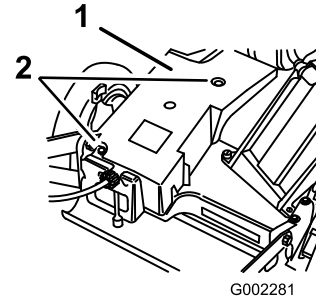

Figure 37
3. Remove the bolts that secure the belt cover (Figure 37) to the mower housing.